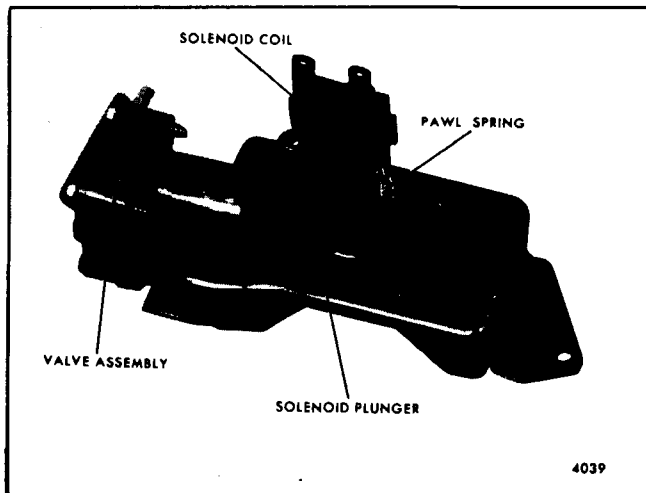

Fig. 2-59-Washer Assembly Internal Gear
1. The spring loaded solenoid plunger pushes through an opening in the rim of the ratchet wheel. As the plunger moves through the opening, it pushes the ratchet pawl away from the ratchet teeth (Fig. 2-59).